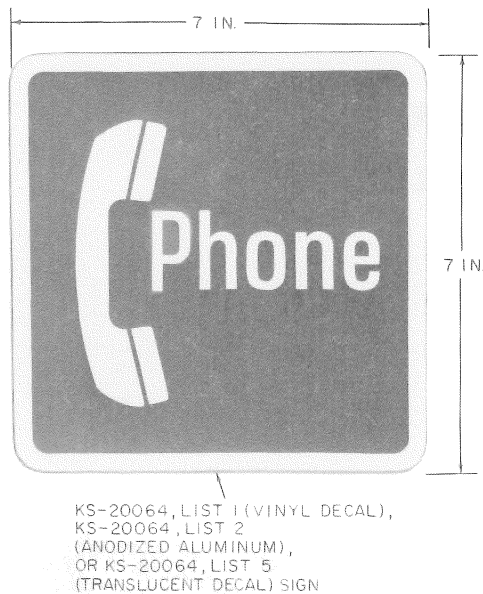

Fig. 2—KS-20064, Lists 1, 2, or 5 Sign
(a) KS-20064, List 1 (Fig. 2):
(b) KS-20064, List 2 (Fig. 2):
- (e) KS-20064, List 5 (Fig. 2):